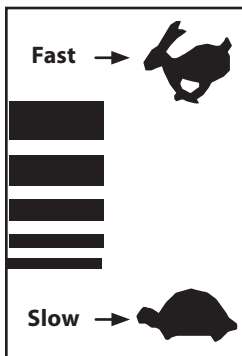

Figure 5-2
6. Move the throttle control into the FAST (rabbit) position. See Figure 5-2.